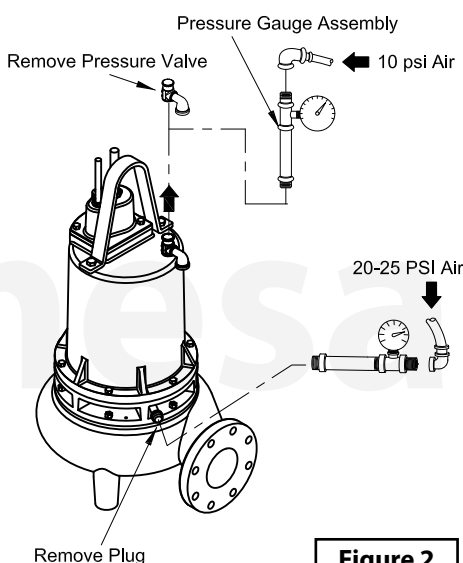

Figure 2
Motor Housing - Oil should be at normal level. Remove pressure valve (10) from motor housing (3). Apply pipe sealant to pressure gauge assembly and tighten into hole (See Figure 2). Pressurize motor housing to 10 PSI.